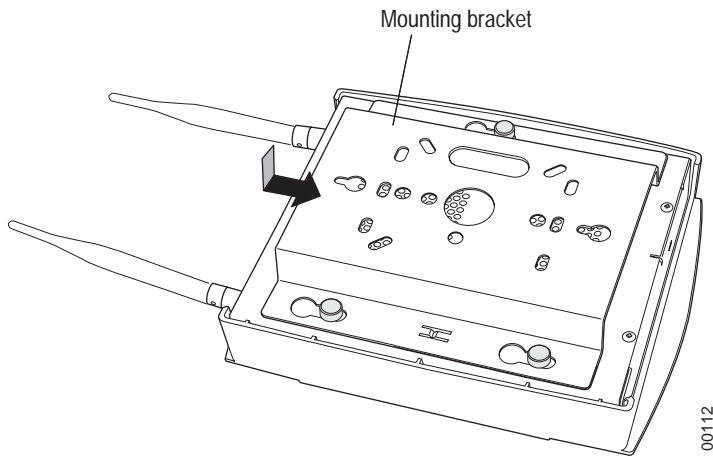

Figure 9: Sliding the AP200 into the Bracket
8. Align the AP200 mounting posts over the circular portion of the keyhole mounts, push the AP in and slide the AP down until it engages with the locking detents (see Figure 9). You should hear it snap in place.
10. Connect the posts of the AP200 to the three keyholes of the mounting bracket and slide into the keyhole (see Figure 9), ensuring the locking detent is engaged. You will hear a click.